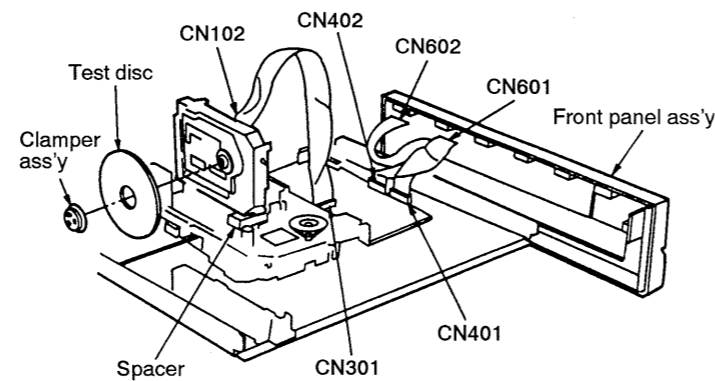

Fig. 8
3. Install the spacer so that the traverse deck is horizontal as shown in Fig. 8.